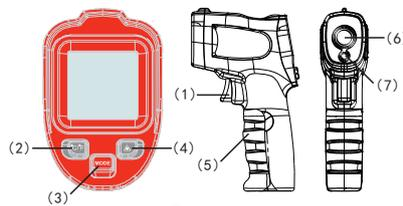

Figure 4
**2. Names and functions of parts: as shown in Figure 4**